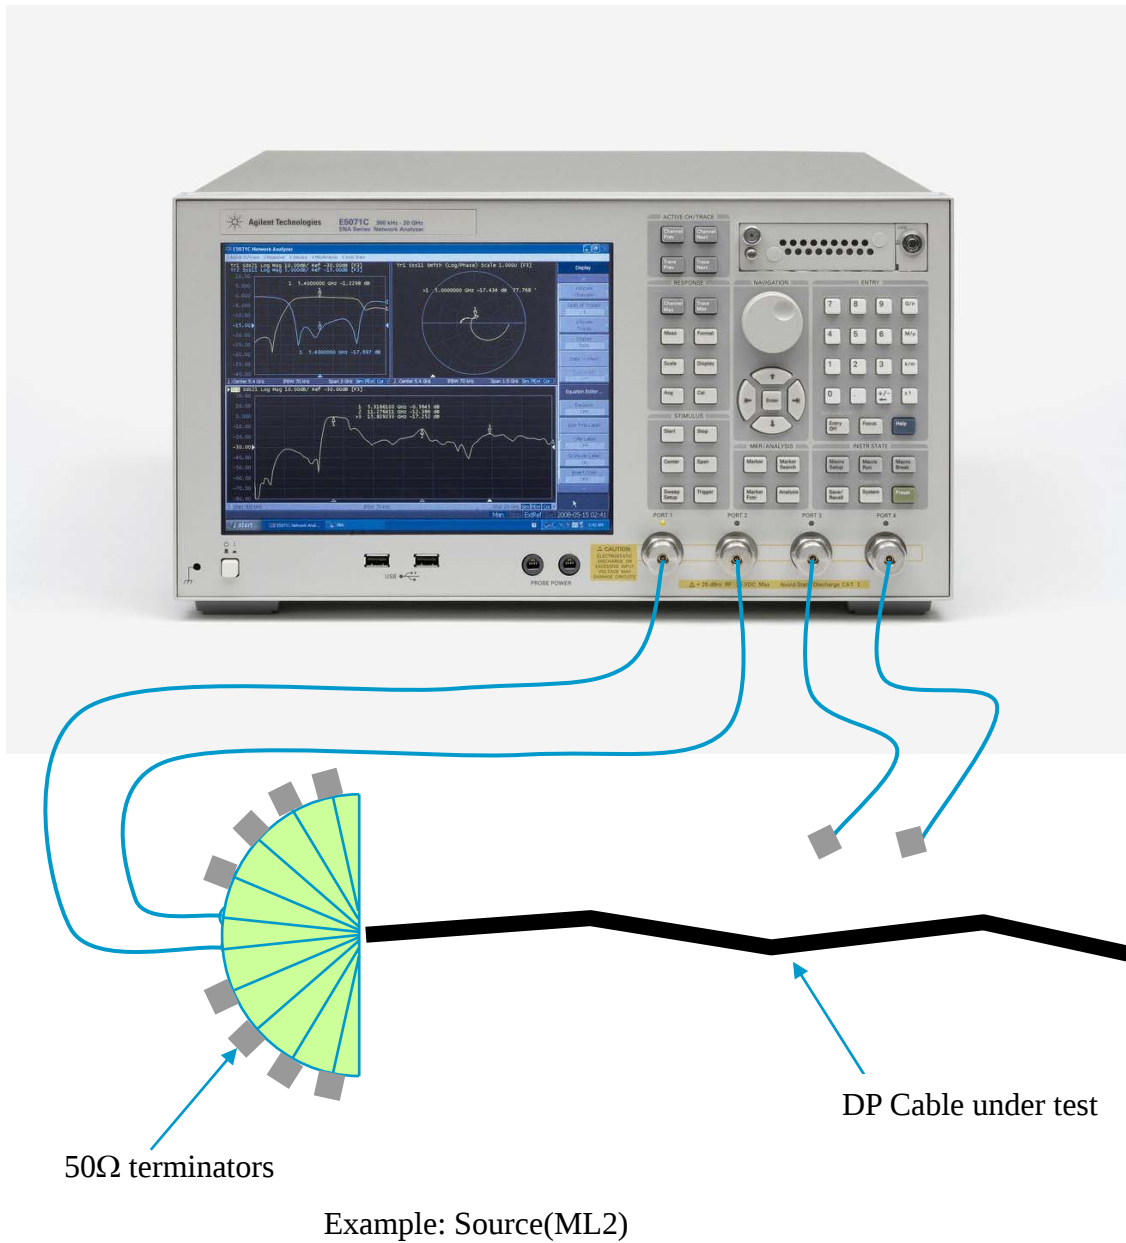

Figure 5.6.2 Connection Example for Impedance measurement
1. Connect the test fixture to the test port cables according to the **Figure 5.6.2**. Unused terminals should be terminated.